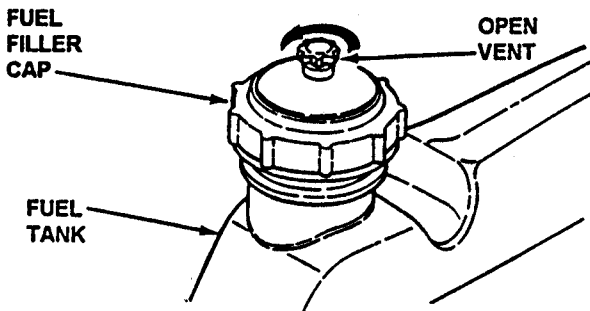

FIGURE 2.2
- 2.1.7. Add fuel to tank after pushing the Rear Engine Rider outside where fumes can dissipate. Make sure fuel cap is tight, vent is open, and fuel valve is "ON" after refueling. Refer to engine owner's manual for fuel specifications. See Figure 2.2.